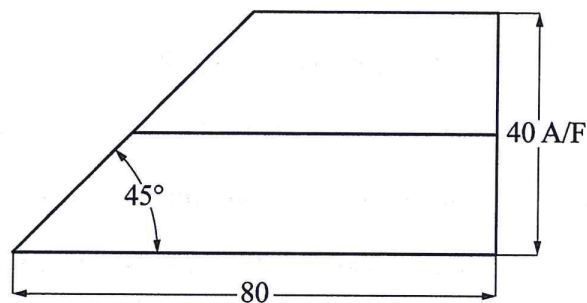

Figure 2
8. **Figure 2** shows a truncated hexagonal prism resting on one of its sides. Draw the end elevation of the prism and the true shape of the cut face. (6 marks)